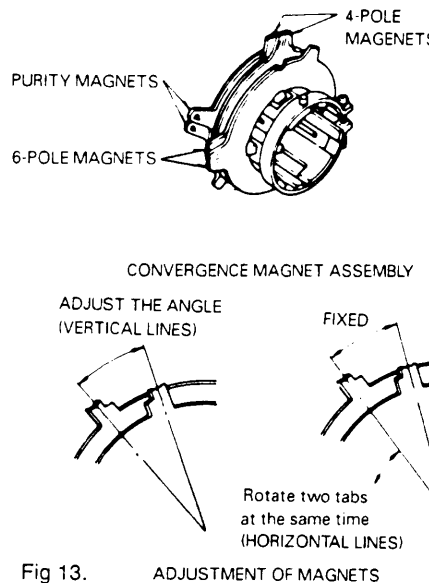

Fig 13.
- 6: Rotate and spread the tabs of the purity magnet (see fig. 13) around the neck of the picture tube until the green belt is in the centre of the screen. At the same time, centre the raster vertically.
- 3: Adjust two tabs of the 4-pole magnets to change the angle between them (fig. 13) and superimpose the red and blue vertical lines in the centre area of the picture screen (fig. 14).